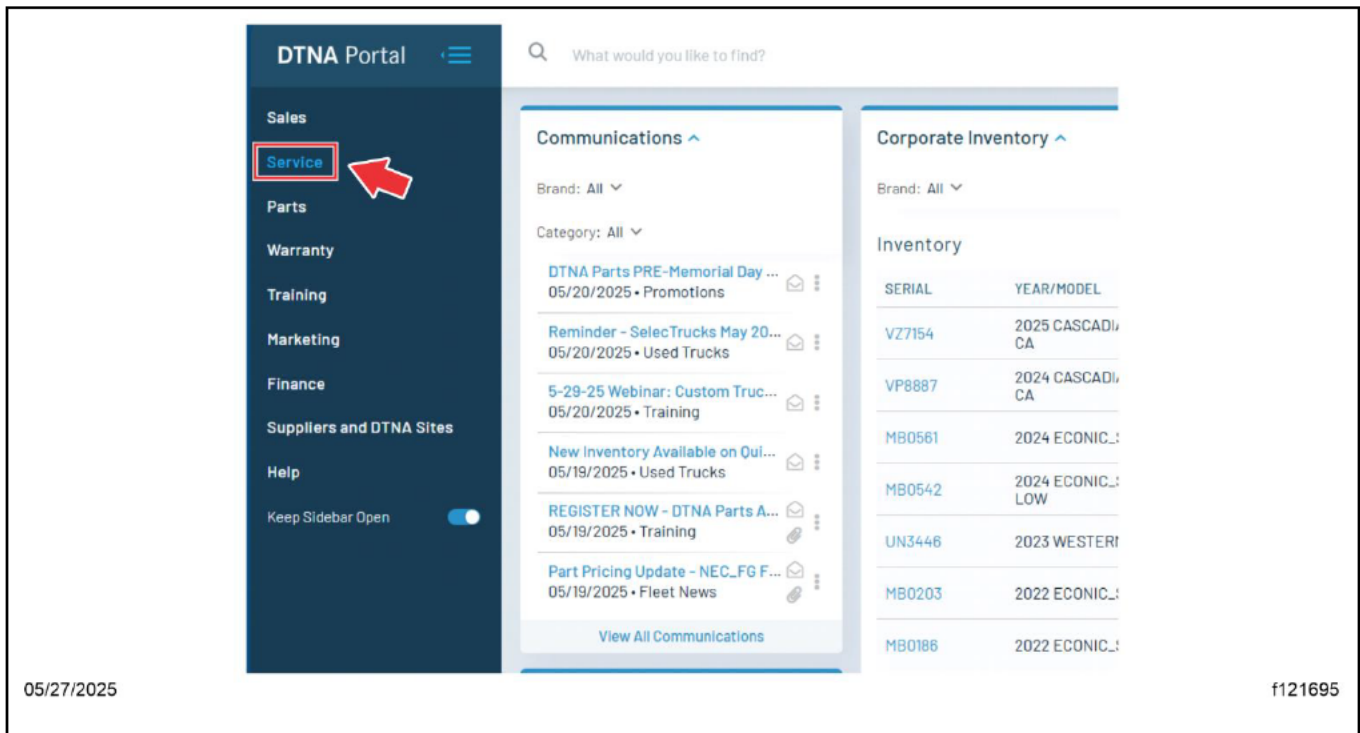

Fig. 2, Selecting Service in the Sidebar Menu
2. Select 'Service' from the sidebar menu. See Fig. 2.